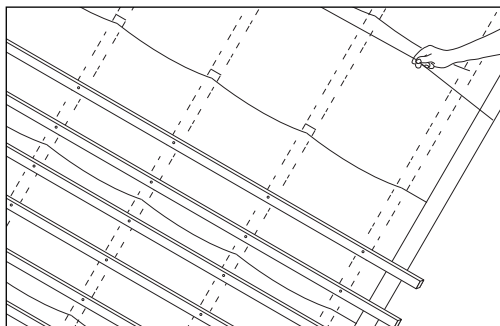

Fig 5 – Striking chalk lines
- 1 Strike a chalk/ochre line at 90° to perpendicular line (Fig 5).